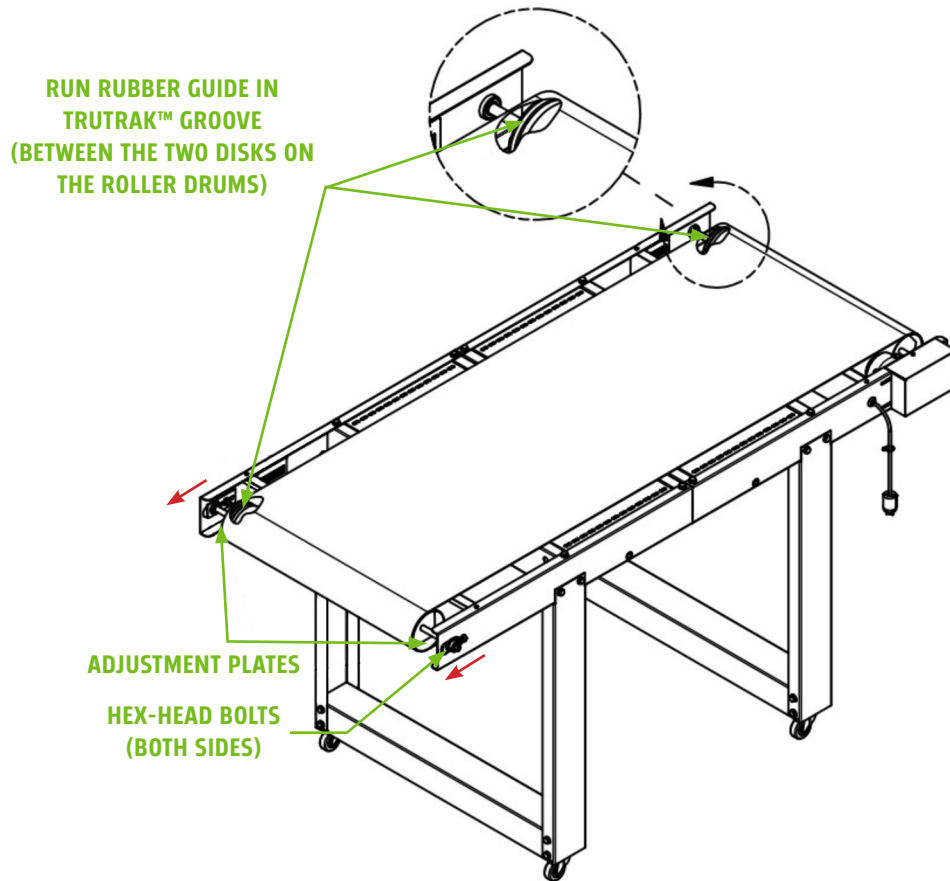

FIGURE 4
1. Determine the side of the belt that will convey the product. A rubber guide is stitched onto one edge of the belt. This guide is designed to ride in the *TruTrak™* roller drum grooves to provide hassle-free tracking (See **Figure 4**).
5. Adjust belt tension: Loosen (2x) hex bolts at Take Up Roller (See **Figure 4**). Pull roller at groove end till you have sag of 1 – 1.5 inches below the cross-members as the belt travels under the conveyor bed. Over-tightening the belt can lessen the lifetime of the conveyor belt. Tighten the hex bolt.